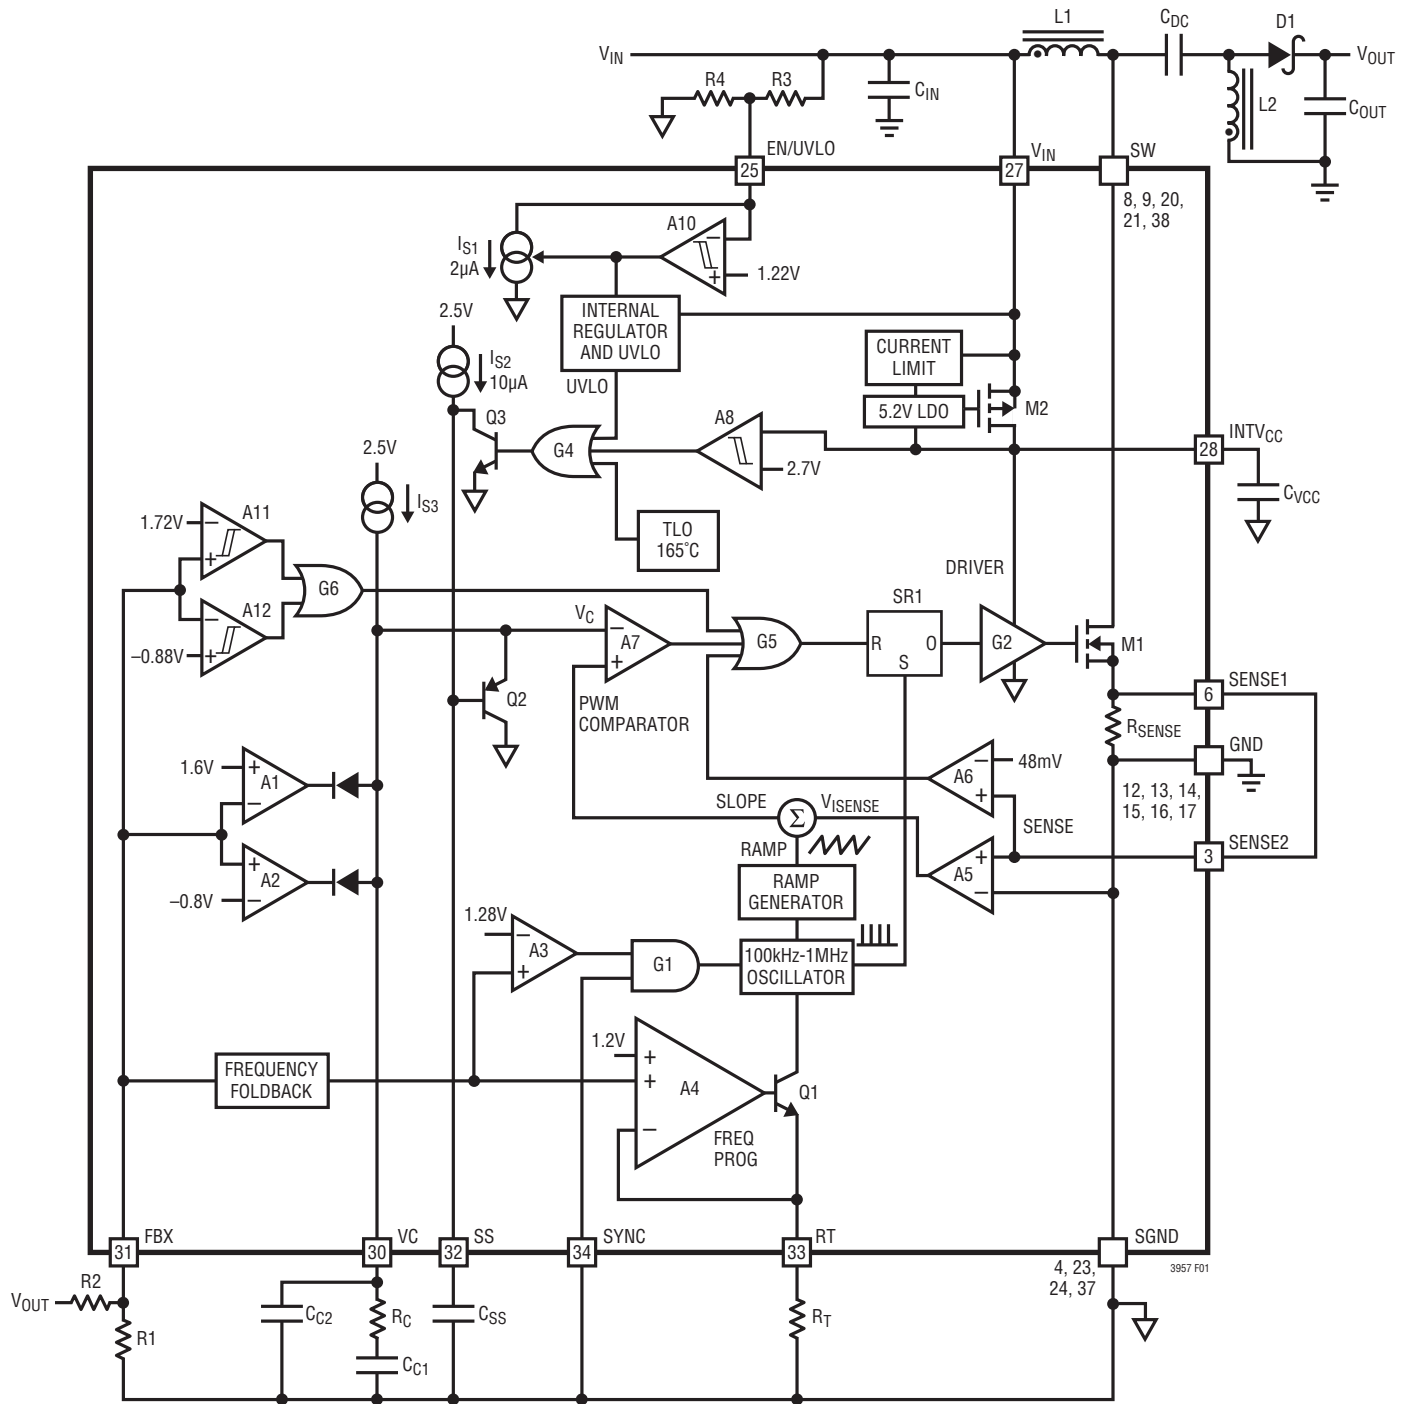

Figure 1. LT3957 Block Diagram Working as a SEPIC Converter
The LT3957 uses a fixed frequency, current mode control scheme to provide excellent line and load regulation. Operation can be best understood by referring to the Block Diagram in Figure 1.
The LT3957 is capable of generating either positive or negative output voltage with a single FBX pin. It can be configured as a boost, flyback or SEPIC converter to generate positive output voltage, or as an inverting converter to generate negative output voltage. When configured as a SEPIC converter, as shown in Figure 1, the FBX pin is pulled up to the internal bias voltage of 1.6V by a voltage divider (R1 and R2) connected from  $V_{\text{OUT}}$  to SGND. Comparator A2 becomes inactive and comparator A1 performs the inverting amplification from FBX to VC. When the LT3957 is in an inverting configuration, the FBX pin is pulled down to -0.8V by a voltage divider connected from  $V_{\text{OUT}}$  to SGND. Comparator A1 becomes inactive and comparator A2 performs the noninverting amplification from FBX to VC.
The purpose of this current is to allow the user to program the rising hysteresis. The Block Diagram of the comparator and the external resistors is shown in Figure 1. The typical falling threshold voltage and rising threshold voltage can be calculated by the following equations:
An internal, low dropout (LDO) voltage regulator produces the 5.2V INTVCC supply which powers the gate driver, as shown in Figure 1. The LT3957 contains an undervoltage lockout comparator A8 for the INTVCC supply. The INTVCC undervoltage (UV) threshold is 2.7V (typical), with 0.1V hysteresis, to ensure that the internal MOSFET has sufficient gate drive voltage before turning on. When INTVCC is below the UV threshold, the internal power switch will be turned off and the soft-start operation will be triggered. The logic circuitry within the LT3957 is also powered from the internal INTVCC supply.
If LT3957 operates at a low VIN and high switching frequency, the voltage drop across the drain and the source of the LDO PMOS (M2 in Figure 1) could push INTVCC to be below the UV threshold. To prevent this from happening, the INTVCC pin can be shorted directly to the VIN pin. VIN must not exceed the INTVCC Absolute Maximum Rating (8V). In this condition, the internal LDO will be turned off and the gate driver will be powered directly from VIN. It is recommended that INTVCC pin be shorted to the VIN pin if VIN is lower than 3.5V at 1MHz switching frequency, or VIN is lower than 3.2V at 100kHz switching frequency. With the INTVCC pin shorted to VIN, however, a small current (around 16μA) will load the INTVCC in shutdown mode.
The choice of operating frequency may be determined by on-chip power dissipation (a low switching frequency may be required to ensure IC junction temperature does not exceed 125°C), otherwise it is a trade-off between efficiency and component size. Low frequency operation improves efficiency by reducing gate drive current and MOSFET and diode switching losses. However, lower frequency operation requires a physically larger inductor. Switching frequency also has implications for loop compensation. The LT3957 uses a constant-frequency architecture that can be programmed over a 100kHz to 1000kHz range with a single external resistor from the  $R_T$  pin to SGND, as shown in Figure 1. A table for selecting the value of  $R_T$  for a given operating frequency is shown in Table 1.
The output voltage  $V_{OUT}$  is set by a resistor divider, as shown in Figure 1. The positive and negative  $V_{OUT}$  are set by the following equations:
The LT3957 addresses this mechanism with the SS pin. As shown in Figure 1, the SS pin reduces the power MOSFET current by pulling down the VC pin through Q2. In this way the SS allows the output capacitor to charge gradually toward its final value while limiting the start-up peak currents. The typical start-up waveforms are shown in the Typical Performance Characteristics section. The inductor current  $I_L$  slewing rate is limited by the soft-start function.
Loop compensation determines the stability and transient performance. The LT3957 uses current mode control to regulate the output which simplifies loop compensation. The optimum values depend on the converter topology, the component values and the operating conditions (including the input voltage, load current, etc.). To compensate the feedback loop of the LT3957, a series resistor-capacitor network is usually connected from the VC pin to SGND. Figure 1 shows the typical VC compensation network. For most applications, the capacitor should be in the range of 470pF to 22nF, and the resistor should be in the range of 5k to 50k. A small capacitor is often connected in parallel with the RC compensation network to attenuate the VC voltage ripple induced from the output voltage ripple through the internal error amplifier. The parallel capacitor usually ranges in value from 10pF to 100pF. A practical approach to design the compensation network is to start with one of the circuits in this data sheet that is similar to your application, and tune the compensation network to optimize the performance. Stability should then be checked across all operating conditions, including load current, input voltage and temperature. Application Note 76 is a good reference on loop compensation.